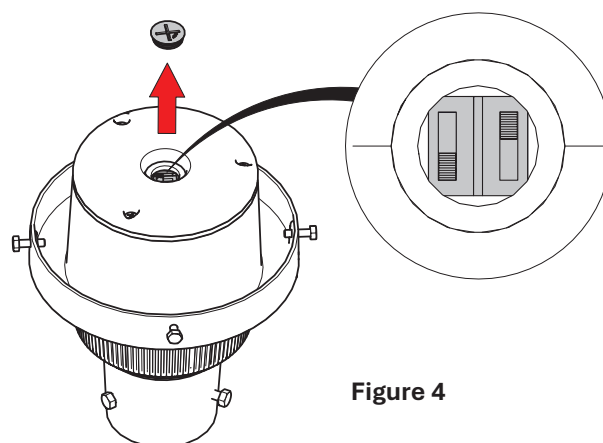

Figure 4
4. Remove the center conduit plug on the housing base and adjust the FAO controller to the desired wattage/CCT settings [Figure 4].